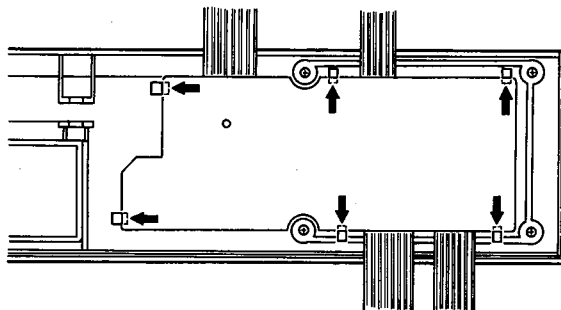

Fig. 5
- (1) Remove the top cover.
- (2) Remove two screws which fix the board on the front panel.
- (3) Remove the board pushing six retainers outside. (fig. 5)
- (4) Remove four cables from the board to the main pc board.